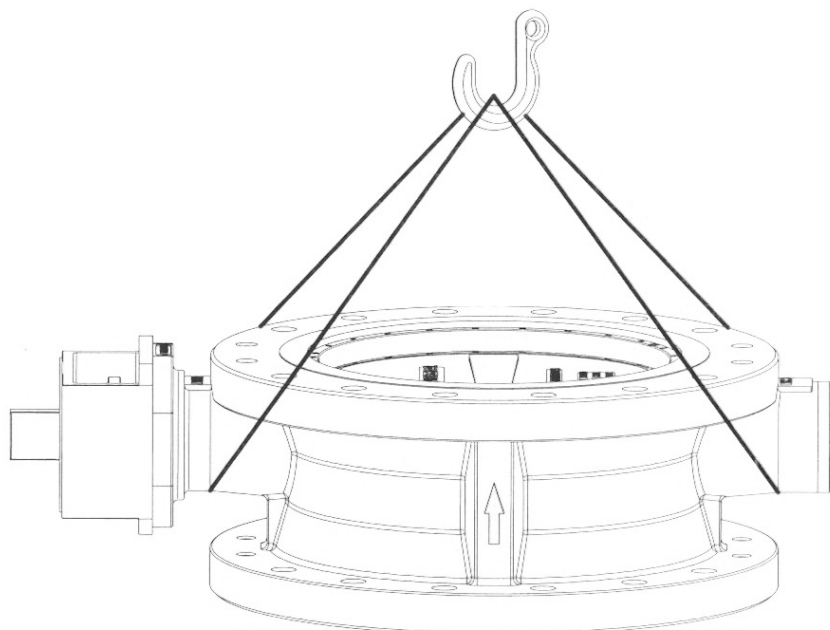

Fig .1
- Lift the Valve properly as shown in figure 1
Valve should be lifted by using chain or bearer cables as shown in figure 1. (Take care that Valve should not damage while handing).
as show in Fig.1 (if removed).